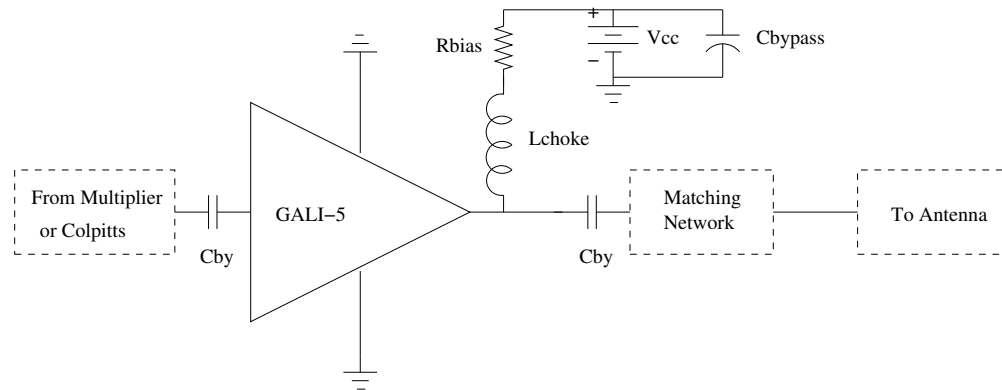

Figure 2: MiniCircuits GALI-5 Amplifier Circuit
3. **Orienting the Board:** Notice that the solder mount board has three plate-through holes, one for the input and two for the output. This will allow you to connect a coupling capacitor to the input, and it will allow you to connect the RF choke and coupling capacitor to the output. The middle pin and top pad are connected to the small copper ground plane. This ground plane should be connected to the ground of your circuit. Figure 2 shows the general circuit layout.
5. **Building the Rest:** Note in Figure 2 that the output of the amplifier is connected through an inductive RF choke (so-called because it presents a high-impedance to RF signals and so ‘chokes’ them off) and a bias resistor. This resistor is necessary for the chip to operate correctly. *Do not connect the output of the chip to power without this bias resistor.* The value of this resistor should be about 60Ω , and should be made from a few resistors in parallel, because it has to dissipate a large amount of power. For a Power Supply voltage of 8-9V, the effective value of R_{bias} should be between 55Ω and 65Ω (this is because the actual voltage at the output of the amplifier is around 5V). For more information on this, see ‘Biasing MMIC Amplifiers’, which is linked off of the GALI-5 web page. As for L_{choke} , you can choose any value of inductor that will present a high impedance at 24MHz (20-100uH is probably fine - just be sure to measure your actual inductor value at the correct frequency). The bypass capacitors should be the usual high-frequency values. Don’t forget to solder a connection from the ground plane to the ground of your board. For now, don’t worry about the matching network.